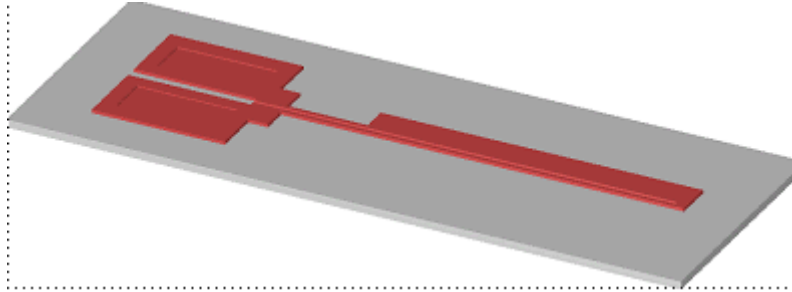

Figure 157: Created 3D Model.
- ☑ Click **"Regenerate"** when asked to View or Regenerate the 3D model. The created 3D model will be displayed as shown in \(Figure 157\).